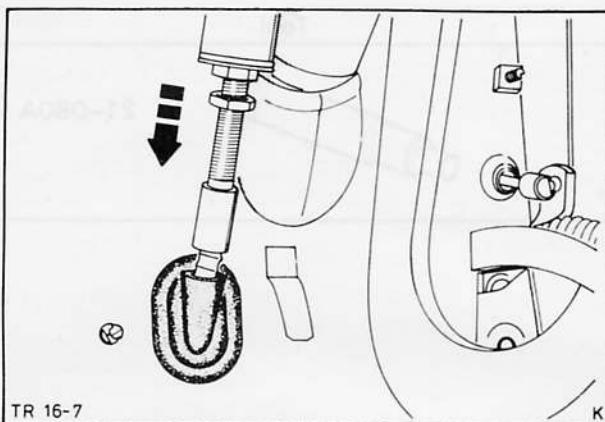

Fig. 8. Clutch cable slackened at pedal bracket
2. Slacken clutch cable at pedal bracket, Fig. 8. Disconnect reversing lamp switch (where fitted) and disconnect gearbox earth strap. Loosen oil filler plug.